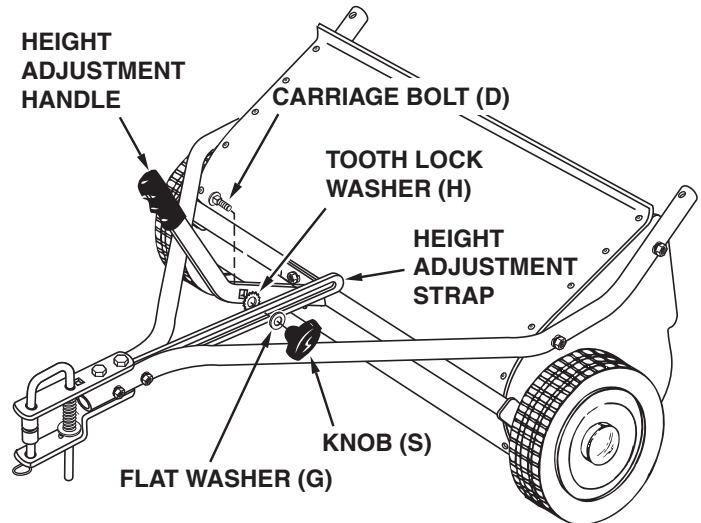

FIGURE 6
- Place the tooth-lock washer (H) between the height adjustment handle and the height adjustment strap. Insert the carriage bolt (D) through the handle, the tooth-lock washer and the strap. Assemble the flat washer (G) and the plastic knob (S) onto the end of the bolt and tighten. See figure 6.